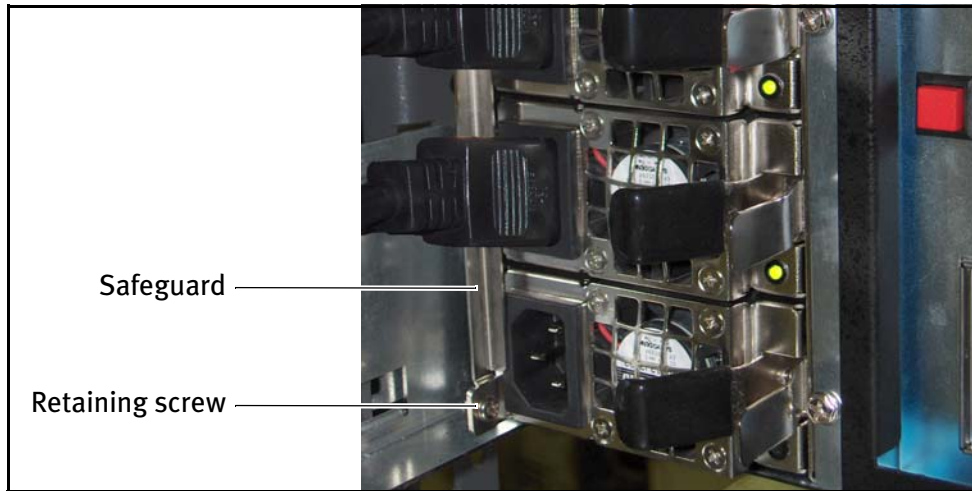

Figure 5 Secure the retainer bar to the safeguard.
5. Insert the retaining screw into the hole in the bottom of the retainer bar (see Figure 5). Use a #2 Phillips screwdriver to tighten the screw.